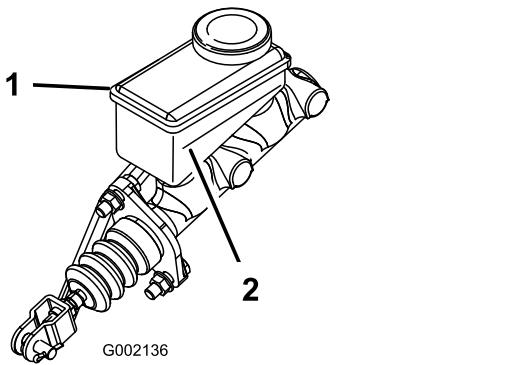

Figure 85
5. Look at the outline of the fluid level at the side of the reservoir (Figure 85).
- B. Add DOT 3 brake fluid to the reservoir until the fluid level is above the Minimum line (Figure 85).